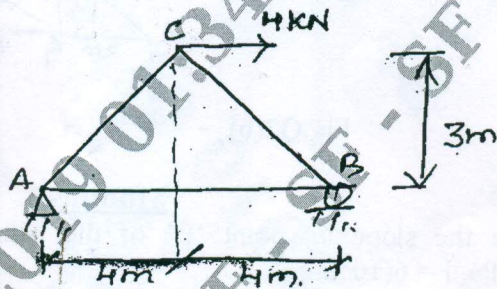

Fig.Q5(b)
- b. Using Castigliano's theorems, determine the vertical displacement of joint C of the truss shown in Fig.Q5(b). $A = 400\text{mm}^2$, $E = 200\text{GPa}$. (10 Marks)